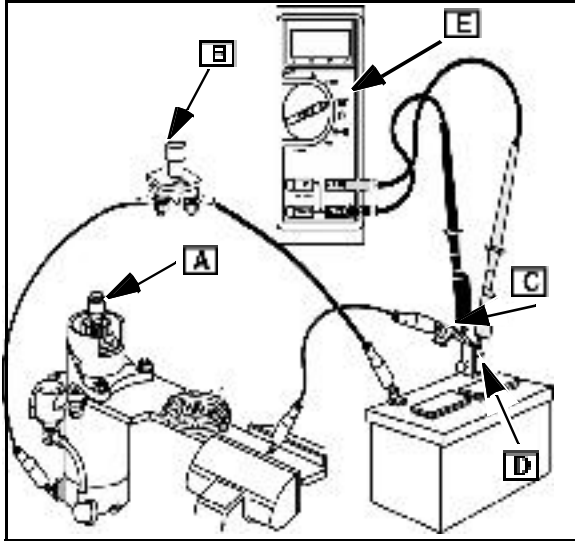

Fig. 60
- A fully charged 12 volt battery Fig. 60.
2. Connect starter motor (A), starter switch (B), DC shunt (C) on negative battery terminal (D) and meter ([E] Fig. 60).